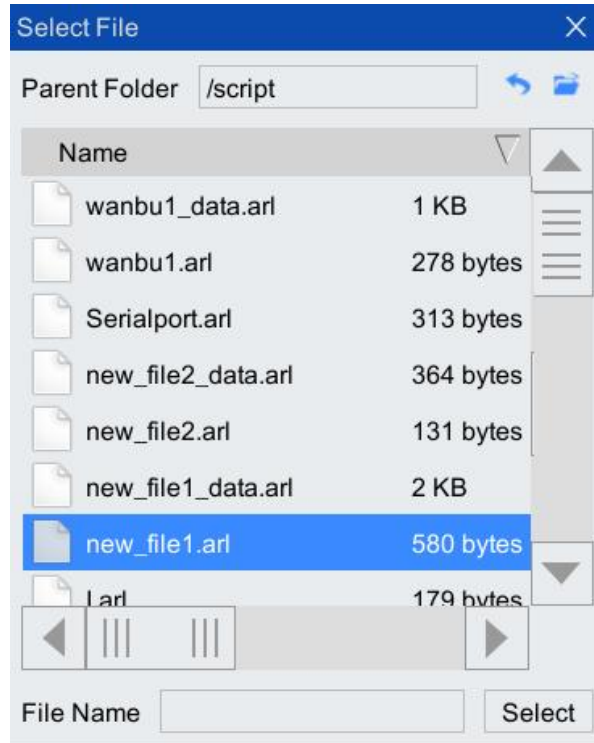
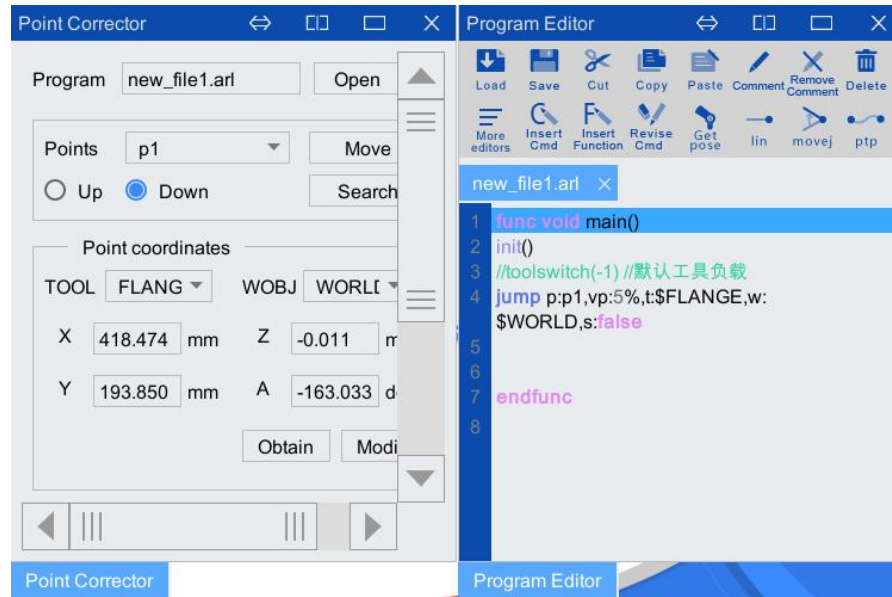

Figure 5-71 "select file" list box
Figure 5-72 "point corrector" and "program editor" interface after opening the file
Step2. Click the <Open> button above, and the "Select File" list box as shown in Figure 5-71 will pop up, select the file to be opened, and click the <Select> button. The program is opened in the "Program Editor" interface at the same time, its related information is also displayed in the "Point Corrector" interface, as shown in Figure 5-72.